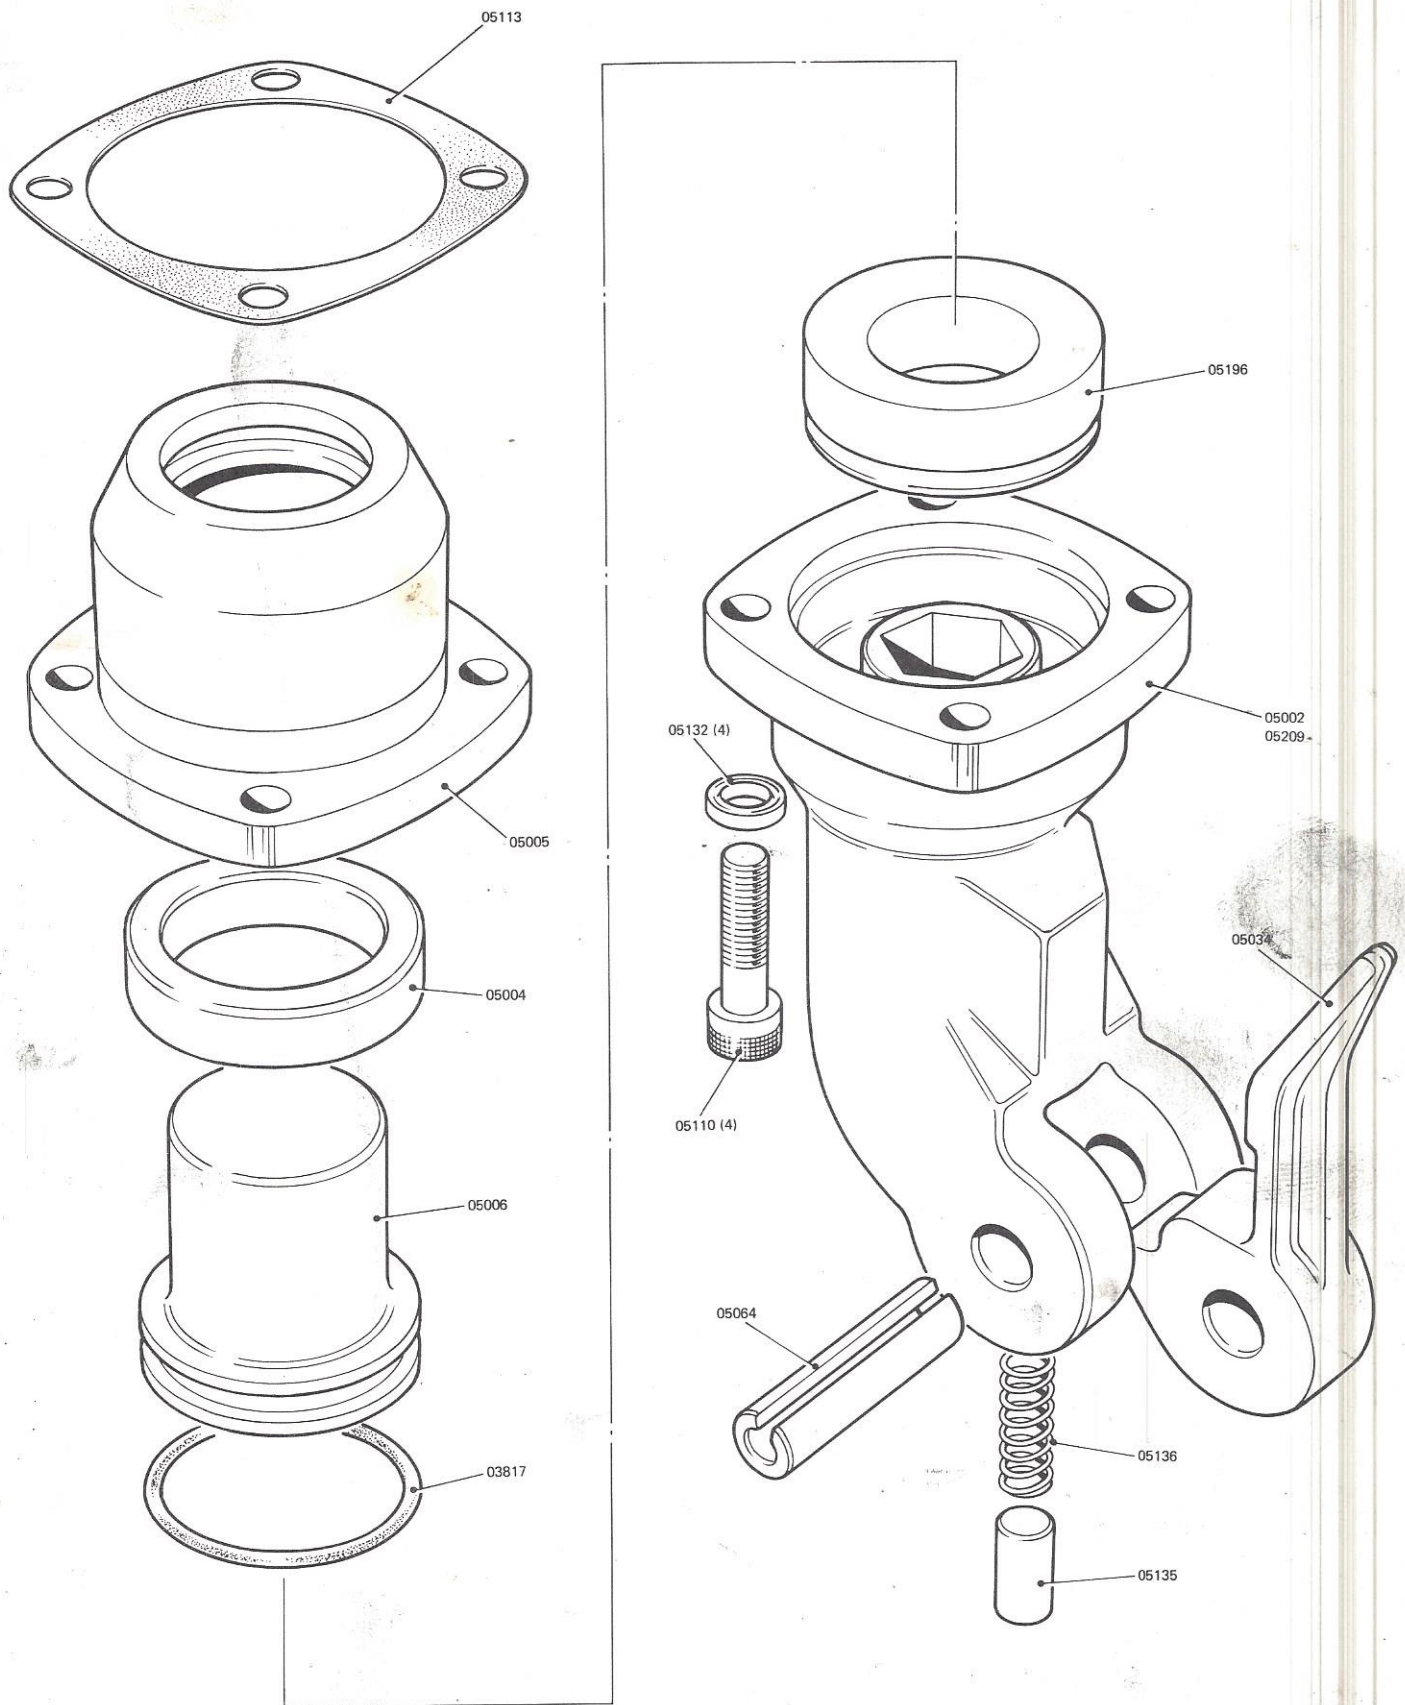

Figure 29 Transmitter
17.5 Transmitter (see Figure 29)
- 05110 Screw (4)
- 05132 Retaining Ring (4)